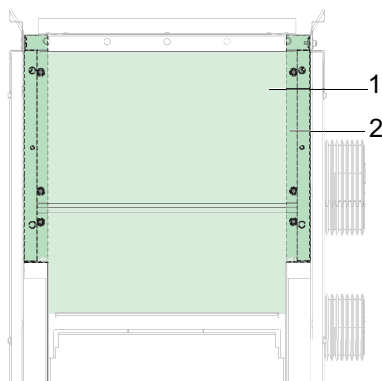
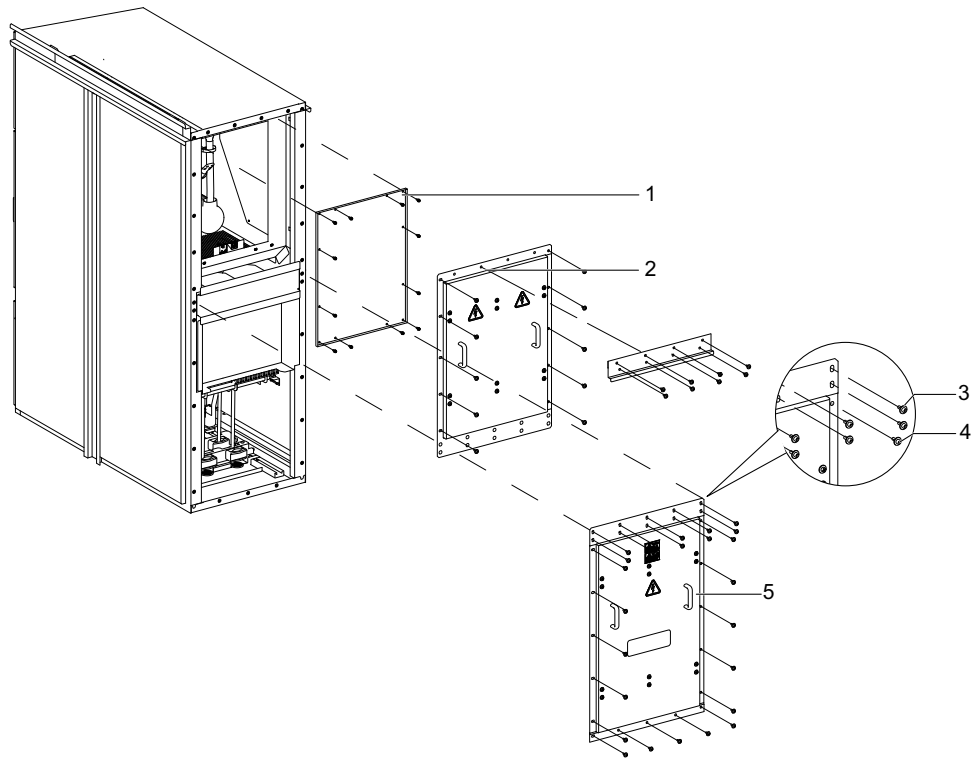

Figure 81
Figure 83
2. Remove the M8 bolts along with washers, and disassemble the maintenance sheet (1). Refer to Figure 81.
2. To remove the maintenance sheet (1), remove the M8 screws (2) and washers (3), and disassemble the maintenance sheet (1). Refer to Figure 81 Access to the Busbar Compartment from Front Side AFL, page 88.
1. To remove the rear cover of the cubicle, first remove the bottom rear cover (5) of the cubicle by unscrewing M8 screws (4) and washers (3) provided on rear cover. Refer to Figure 83.
2. Open the top rear cover (2).
3. To remove the maintenance sheet (1), remove the M8 screws (4) and washers (3), and disassemble the maintenance sheet (1). Refer to Figure 81 Access to the Busbar Compartment from Front Side AFL, page 88.